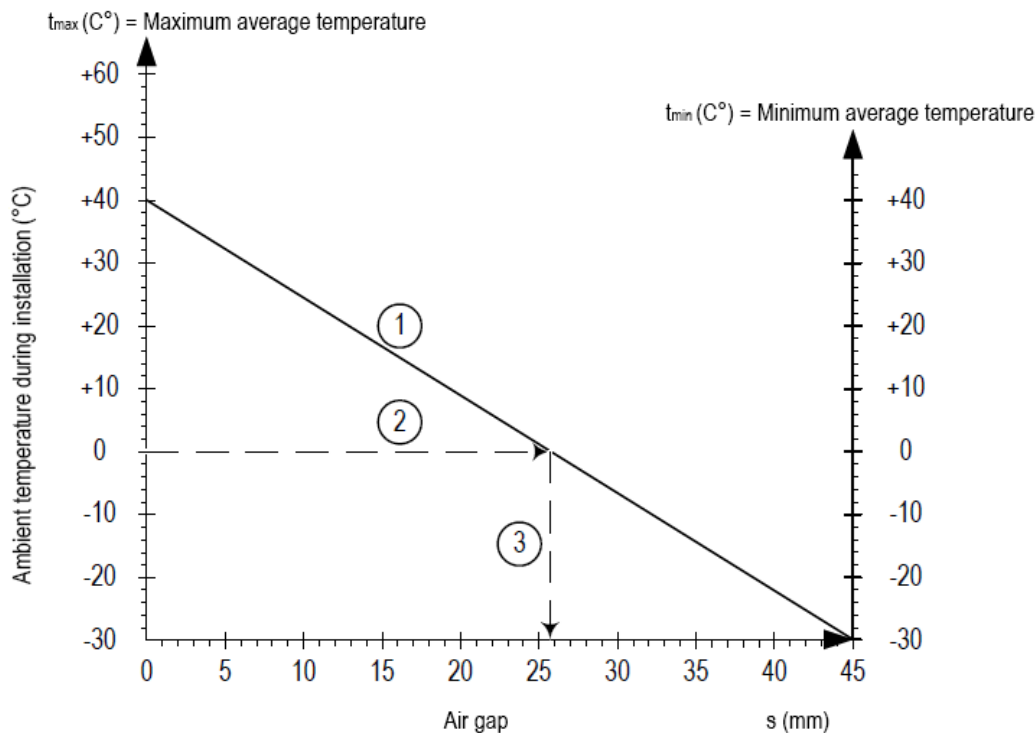

Fig. 38: Determine air gap on expansion unit
- Read the air gap "s" from the table in Fig. 38 and adjust it.